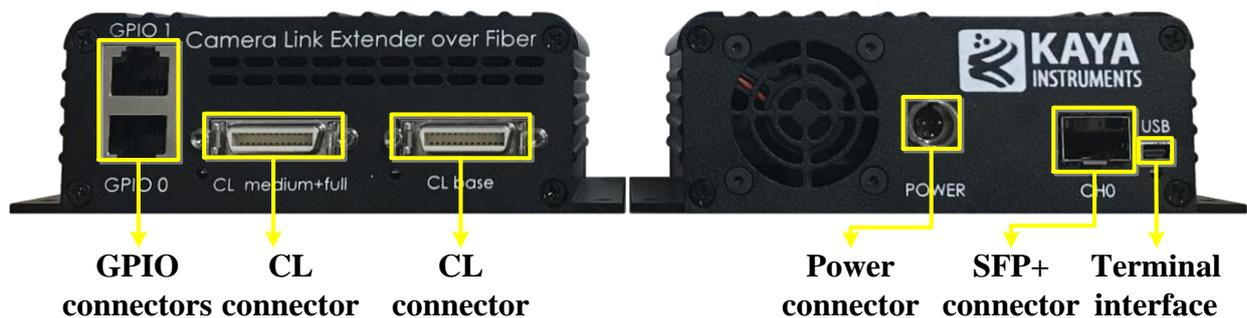

Figure 4 : KY-CL2F-D external view
Each *KY-CL2F-D* unit is housed in a compact, metal enclosure. Each unit has a power connector, 2 Camera Link connectors (MDR), SFP+ cage, 2 x RJ45 connectors for GPIO and a Mini USB Terminal interface, as shown in Figure 4.
3. The power supply connector of the **KY-CL2F-D** unit shown in Figure 4.